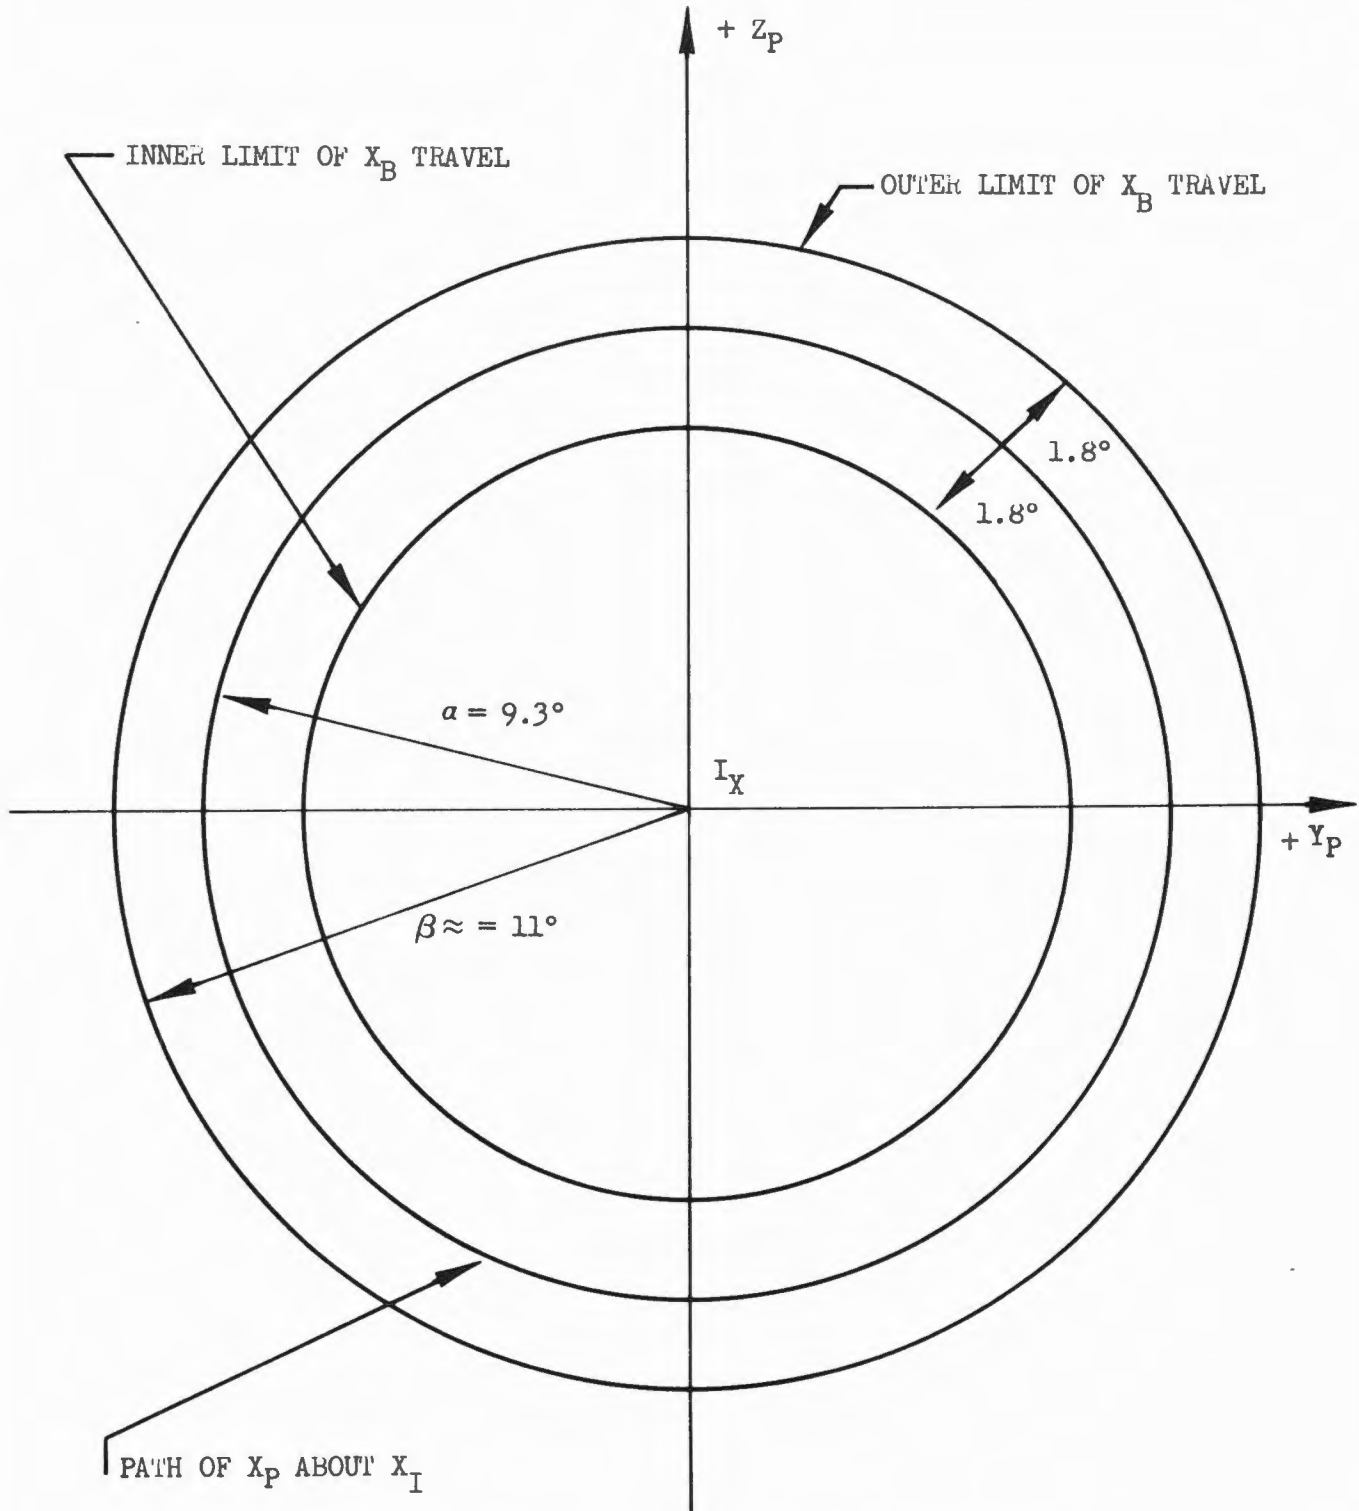

Figure 5-4. Y-Z Plane Paths of X Body Axis
5.1.2.2.3 Assuming that the X_B axis has been pointed in the direction of the desired inertial attitude hold, the vehicle will simultaneously be rotating the X_B axis about the X_p axis and the X_p axis about the X_I . Figure 5-4 shows the path constraints of these motions in the Y-Z plane. The actual attitude history with respect to inertial space will depend upon the values of the periods of revolution of X_B and X_p about X_I . For this general case, we have assumed $\omega \phi_B \approx \omega \phi_p = 0.5$ degree/second. This results in 5 revolutions/hour of X_B about X_p . The rate for X_p about X_I can be calculated from equation (5) to be ≈ 3.3 revolutions/hour.